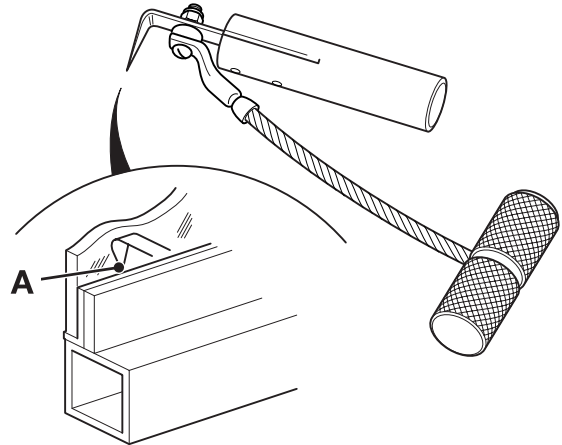

Fig 6. Cut-out Knife
- c Cut-out Knife. ⇒ Fig 6. (□ B-12). The cut-out knife can be used as a left handed or right handed tool.
- ii Make sure that the blade of the knife is against the glass **A**. ⇒ Fig 6. (□ B-12).